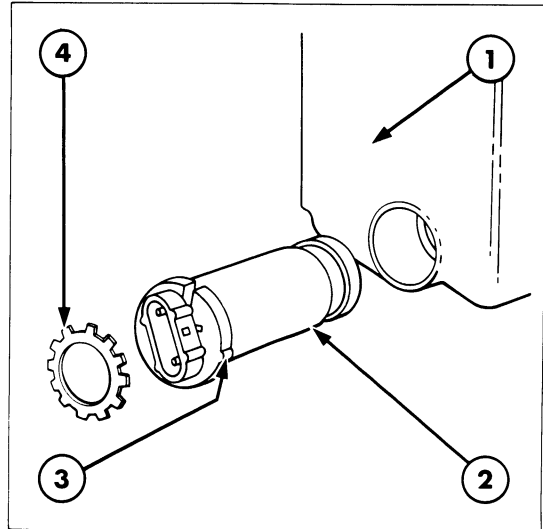

Figure 11
1. Using a small bladed screwdriver, carefully pry out the motor retaining ring, Figure 11.
2. Align the small projection, Figure 11, on the motor end cap with the slot in the bore and insert the motor so that the seal seats against the bottom of the bore.